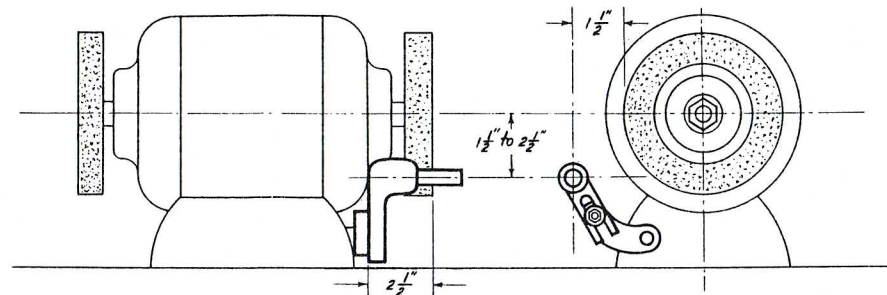

Fig. 7 The adapter shaft must be positioned according to dimensions shown above.
- The adapter shaft must be placed so that a drill mounted in the attachment will be approximately on the horizontal center line of the wheel. Figure 7 shows the approximate position of this shaft.
Remove drill grinding attachment from adapter. Mount adapter on grinder or on a mounting fixture. See Figure 7 for location of adapter.